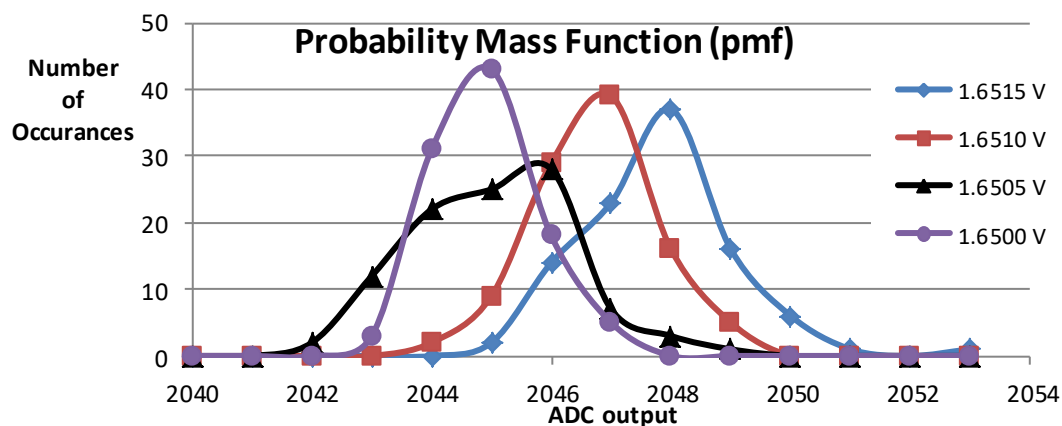

Figure 2.3. Probability mass function measured on the TM4C123 ADC with 64-point averaging.
6. Write main program software to process the data recordings. This software will be run after the arrays are full (and not during the data collection phase.) We will assume the analog input is fixed, so any variations in data will be caused by noise. Generate a probability mass function of the measured data, similar to one color of Figure 2.3. You do not need to plot the data, just create a PMF of number of occurrences versus ADC value. The shape of this curve describes the noise process. The x-axis has the ADC value and the y-axis is the number of occurrences of that ADC value. Design the PMF data structure however you wish.
Connect the constant voltage to the ADC input. If you debug your software in the simulator, you should see all ADC data values the same. So debug this part on the real board. Even though Figure 2.3 was taken with 64-point hardware averaging, do not activate averaging for this part. Use the software in preparations 4 and 6 to create the probability mass function for the ADC noise. You will have to run it a few times to see typical data so you can set the range of the PMF x-axis. You can either plot the PMF data on the ST7735 LCD using any of the LCD plotting routines, or you can send the data from the LaunchPad to the PC and plot the PMF in MatLab or Excel. If you plot the data on the ST7735 use a camera to capture the plot into your lab report. How would you describe the shape of the noise process? When you run it over and over do you get the same shape of the PMF? *Hint: you should not get the same PMF because the noise is not stationary.*